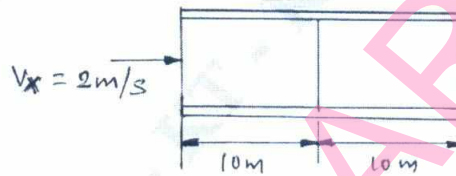

Fig.Q8(a)
- 8 a. For the smooth pipe shown in Fig.Q8(a) with uniform cross-section of 1m^2 , determine the flow velocities at the centre and right end, knowing the velocity at the left is $V_x = 2\text{m/s}$. (10 Marks)